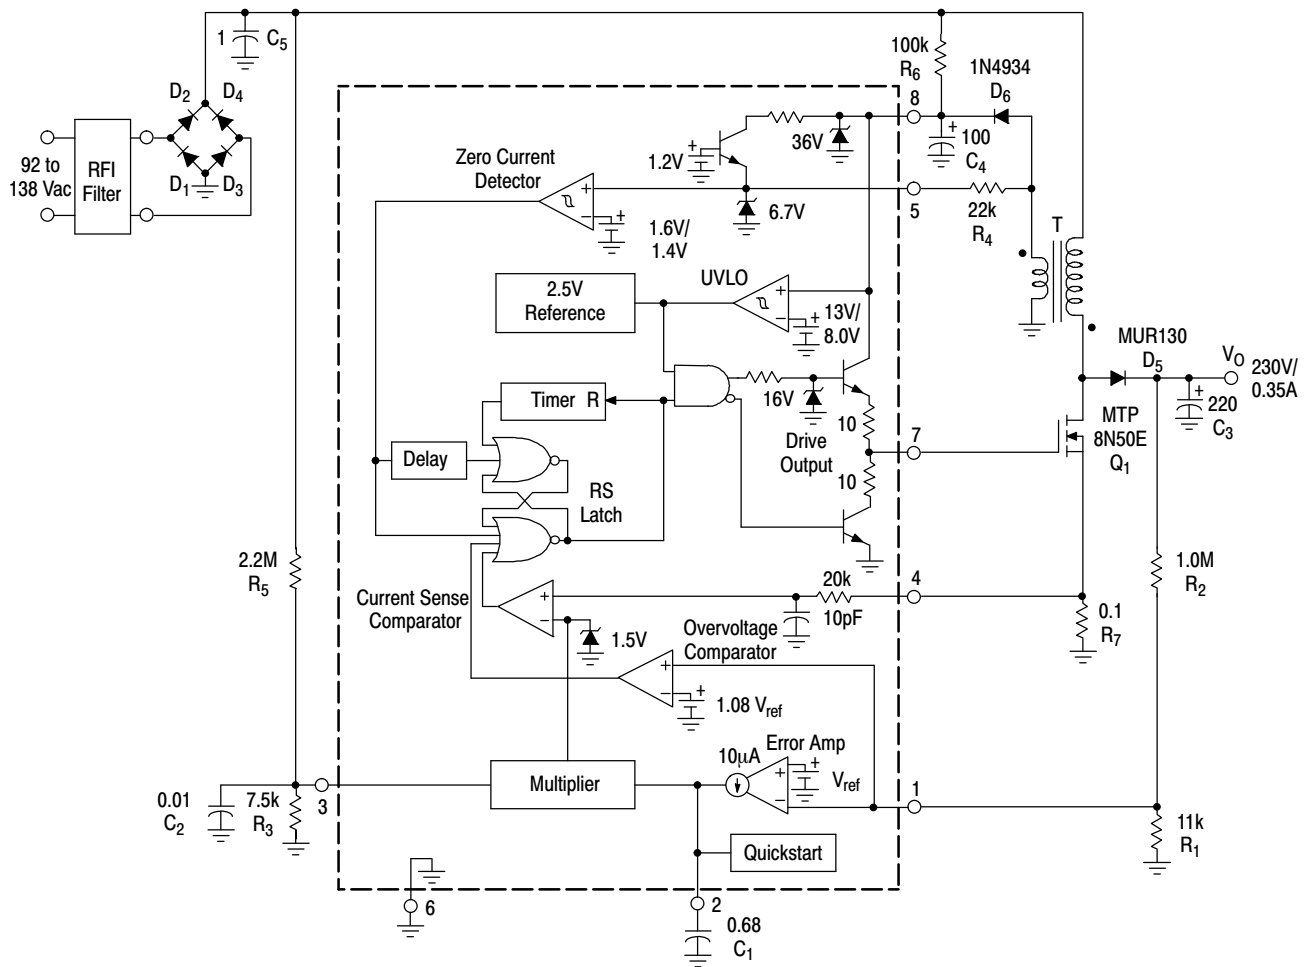
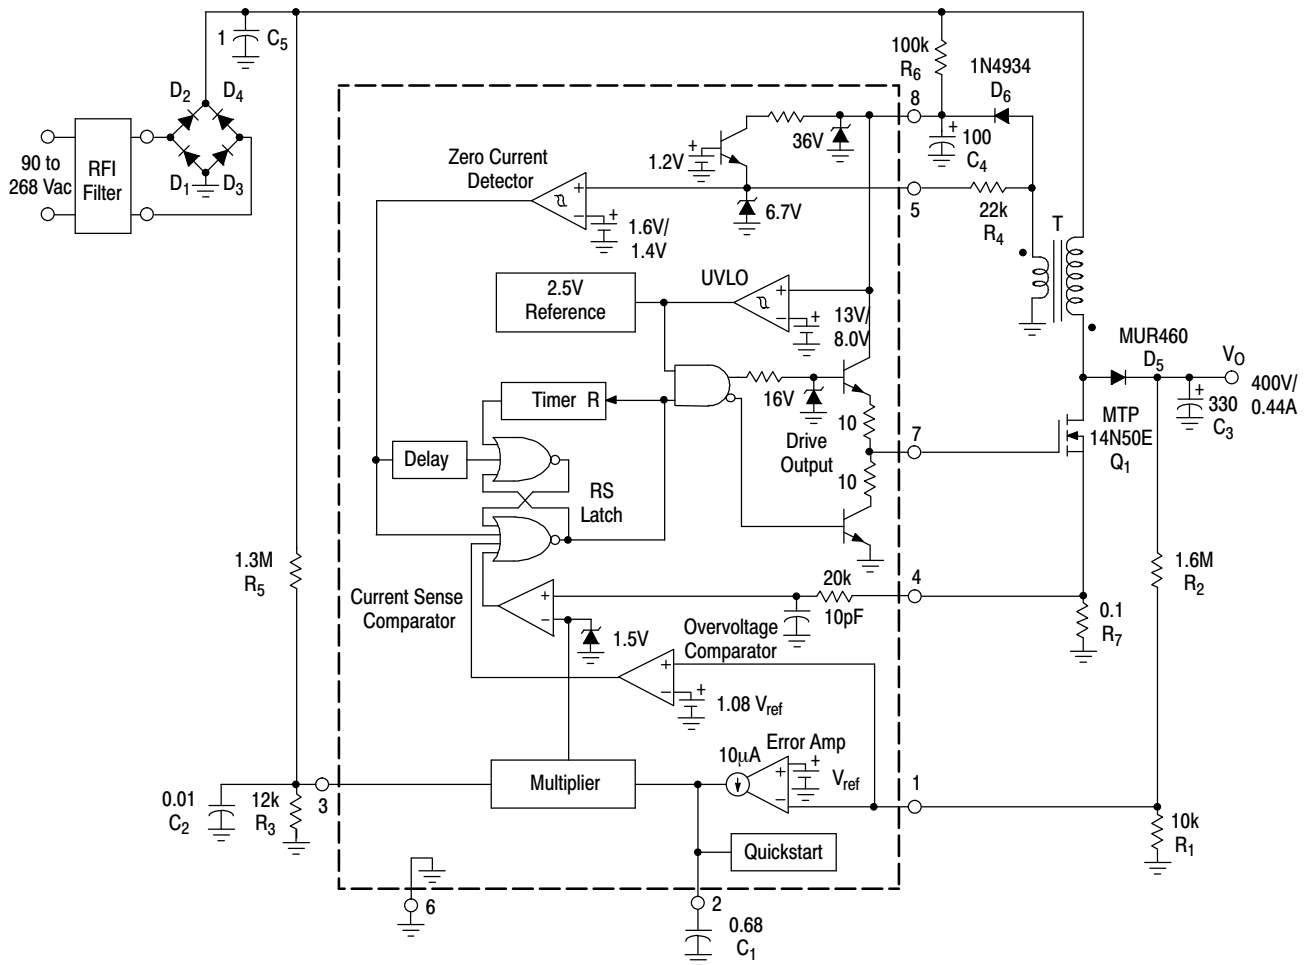
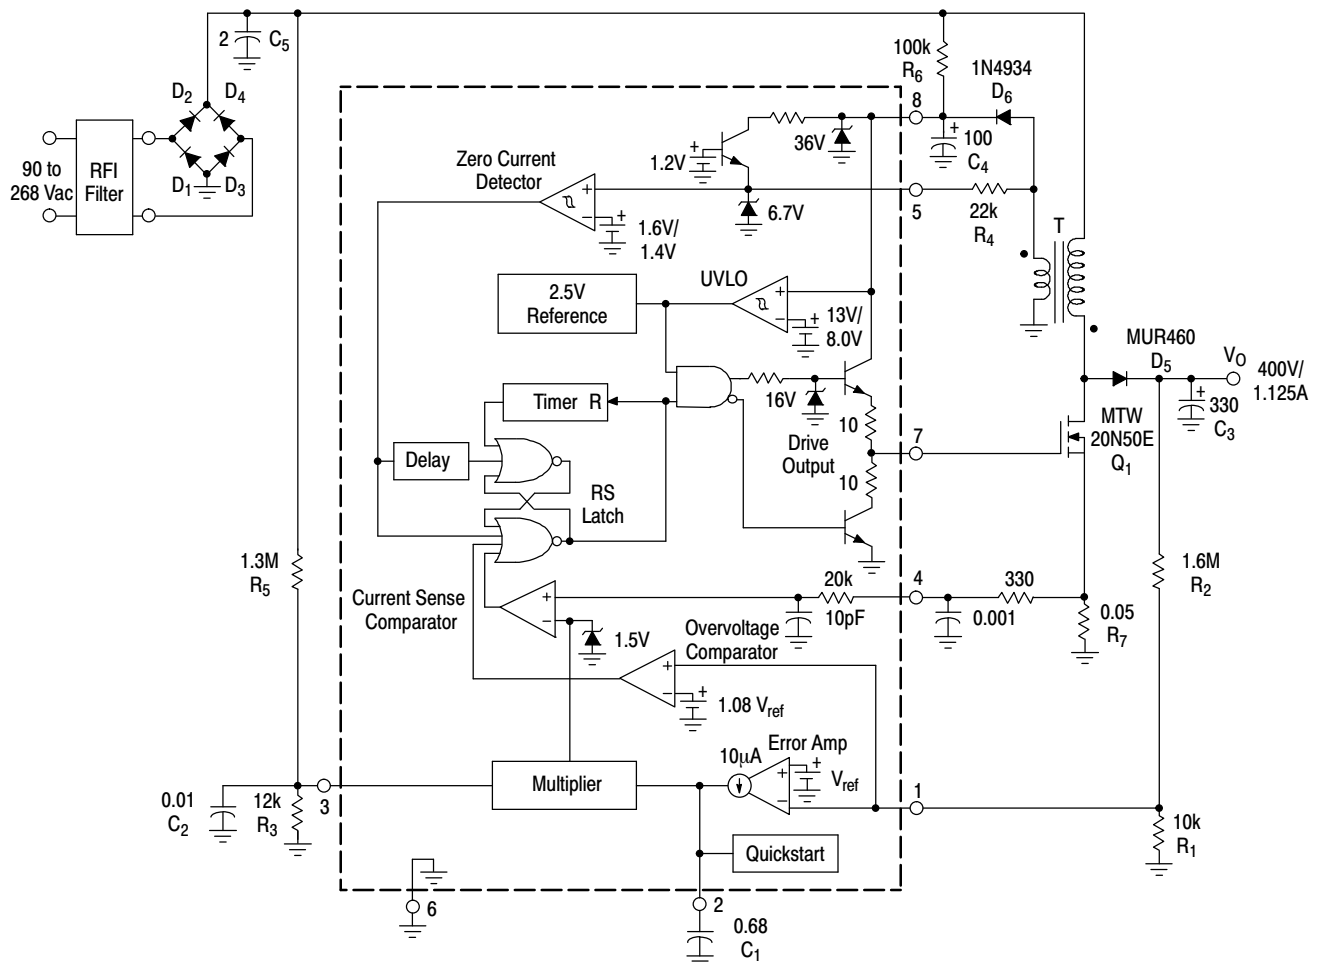

Figure 20. 80 W Power Factor Controller
Figure 21. 175 W Universal Input Power Factor Controller
Figure 22. 450 W Universal Input Power Factor Controller
UC3842 series. Referring to the block diagrams in Figures 20, 21, and 22 note that a multiplier has been added to the current sense loop and that this device does not contain an oscillator. The reasons for these differences will become apparent in the following discussion. A description of each of the functional blocks is given below.
An internal RC filter has been included to attenuate any high frequency noise that may be present on the current waveform. This filter helps reduce the ac line current distortion especially near the zero crossings. With the component values shown in Figure 21, the Current Sense Comparator threshold, at the peak of the haversine varies from 1.1 V at 90 Vac to 100 mV at 268 Vac. The Current Sense Input to Drive Output turn-off propagation delay is typically less than 200 ns.
The application circuits shown in Figures 20, 21 and 22 reveal that few external components are required for a complete power factor preconverter. Each circuit is a peak detecting current-mode boost converter that operates in critical conduction mode with a fixed on-time and variable off-time. A major benefit of critical conduction operation is that the current loop is inherently stable, thus eliminating the need for ramp compensation. The application in Figure 20 operates over an input voltage range of 90 Vac to 138 Vac and provides an output power of 80 W (230 V at 350 mA) with an associated power factor of approximately
0.998 at nominal line. Figures 21 and 22 are universal input preconverter examples that operate over a continuous input voltage range of 90 Vac to 268 Vac. Figure 21 provides an output power of 175 W (400 V at 440 mA) while Figure 22 provides 450 W (400 V at 1.125 A). Both circuits have an observed worst-case power factor of approximately 0.989. The input current and voltage waveforms of Figure 21 are shown in Figure 23 with operation at 115 Vac and 230 Vac. The data for each of the applications was generated with the test set-up shown in Figure 25.
(Figure 21 Circuit)
An RFI filter is required for best performance when connecting the preconverter directly to the ac line. The filter attenuates the level of high frequency switching that appears on the ac line current waveform. Figures 20 and 21 work well with commercially available two stage filters such as the Delta Electronics 03DPCG5. Shown above is a single stage test filter that can easily be constructed with four ac line rated capacitors and a common-mode transformer. Coilcraft CMT3-28-2 was used to test Figures 20 and 21. It has a minimum inductance of 28 mH and a maximum current rating of 2.0 A. Coilcraft CMT4-17-9 was used to test Figure 22. It has a minimum inductance of 17 mH and a maximum current rating of 9.0 A. Circuit conversion efficiency  $\eta$  (%) was calculated without the power loss of the RFI filter.
(Circuits of Figures 20 and 21)